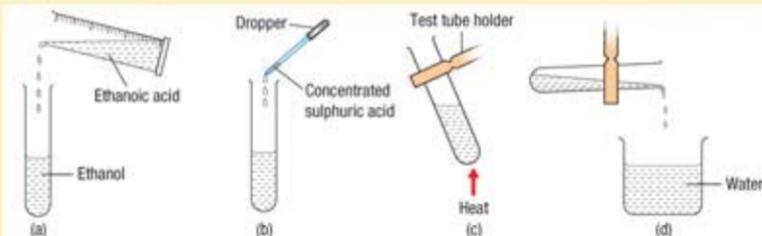

Figure 5.16
1. Measure 2 cm^3 of ethanol and 2 cm^3 of ethanoic acid using a measuring cylinder and pour both liquids into a boiling tube (Figure 5.16(a)). Shake the boiling tube.
- Add five drops of concentrated sulphuric acid into the boiling tube mixture (Figure 5.16(b)) in a fume chamber. Shake the boiling tube.
- Heat the mixture for several minutes (Figure 5.16(c)).
- Pour the mixture into a beaker filled with water (Figure 5.16(d)). Observe and record the characteristics of the product.